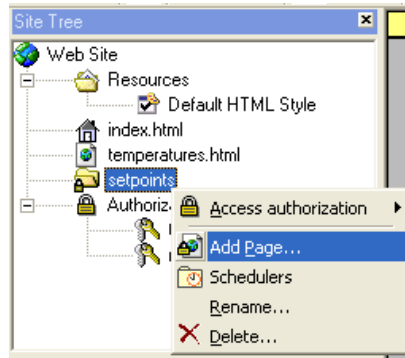

Figure 191: Adding a Protected Page
7. To add a page to the protected folder, right-click the locked folder and select Add Page (Figure 191). You can now edit the page as a normal page.